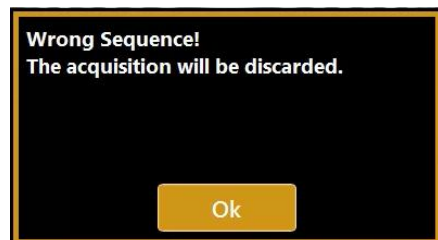

Fig. 40
2. Click the joystick to activate the focusing guide, follow the focusing arrows until the green marks are shown and the message “FOCUS IS OK: ASK PATIENT TO BLINK” (Fig. 40)